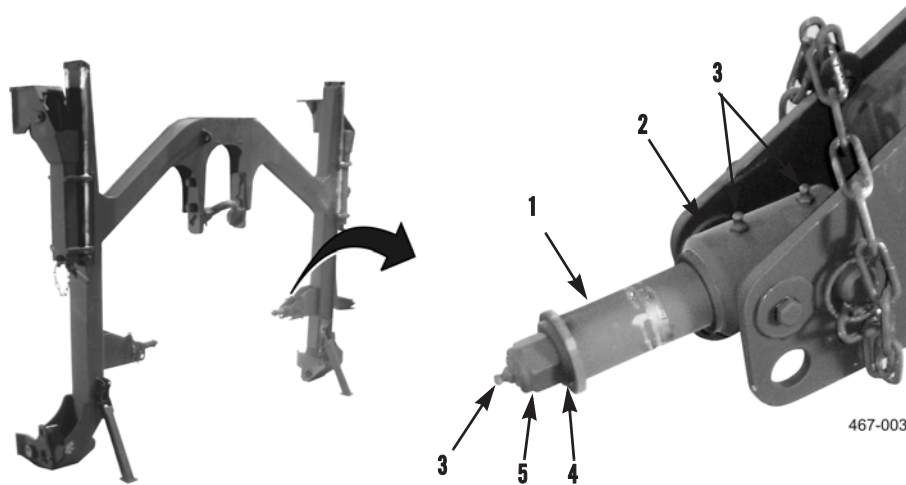

Figure 1. Roller and Grease Fittings.
1. Remove three grease fittings (Figure 1, Item 3) from roller pin (Figure 1, Item 2).
2. Remove nut (Figure 1, Item 5), washer (Figure 1, Item 4), and roller (Figure 1, Item 1) from roller pin (Figure 1, Item 2).